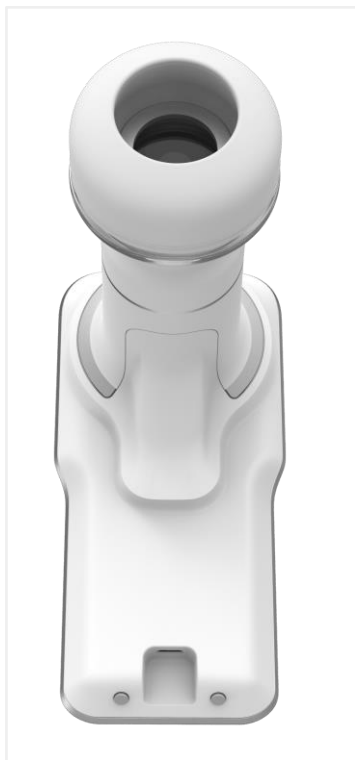

Figure 108: **Eyer®** connected to charger
- **Smartphone charge:** Plug a charger connected to the power grid, figure 108, in the **Eyer®** USB-C port, figure 109.